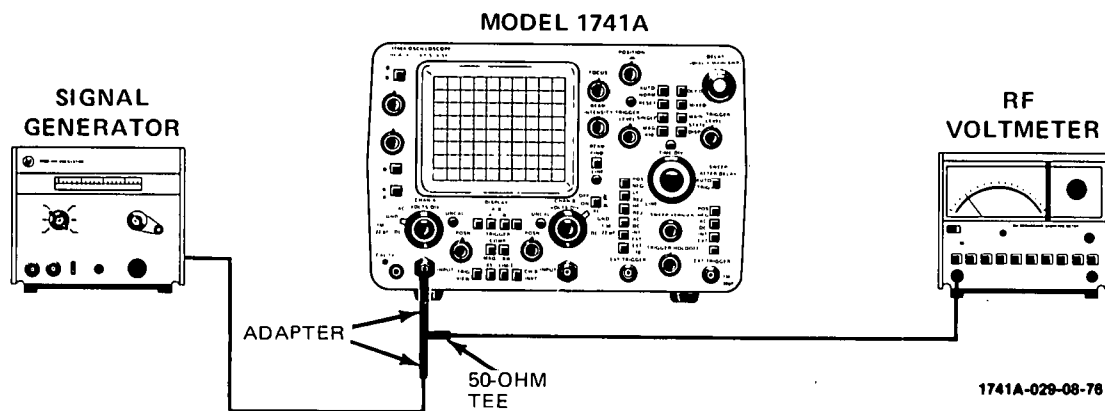

Figure 4-1. Bandwidth Test Setup
a. Connect signal generator and rf voltmeter as shown in figure 4-1.